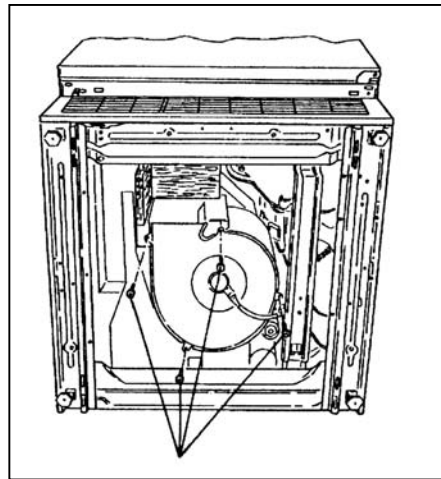

Figure 5-13: Condenser Fan Screws.
3. Remove the four (4) screws that secure the Condenser Fan to the Condenser Assembly (Figure 5-13).